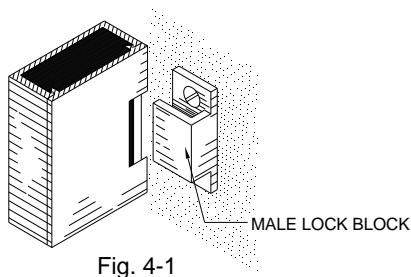

Fig. 4-1
2. Locate and mark the closing channel drop bolt center on the floor. A male lock block (Fig. 4-1) is provided for locking the midsection of the closing channel. Use the male lock block as a spacer between the channel and jamb to insure proper positioning.